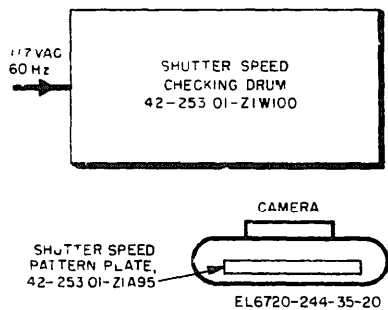

Figure 6-2 Setup for stroboscopic test of shutter slit gradient, block diagram
(1) Set up the shutter speed checking drum, the camera, and the shutter speed pattern plate as shown (fig. 6-2). The shutter speed pattern plate is placed in the camera film aperture.
(2) Set the shutter speed dial to 1/500 second. Make sure the camera body is positioned so that the lens mounting flange is placed against the window of the shutter speed checking drum.
(3) Wind and release the shutter. Check that the gradient is matched with the fixed pattern of the shutter speed pattern plate.
(4) Remove the shutter speed pattern plate from the camera.